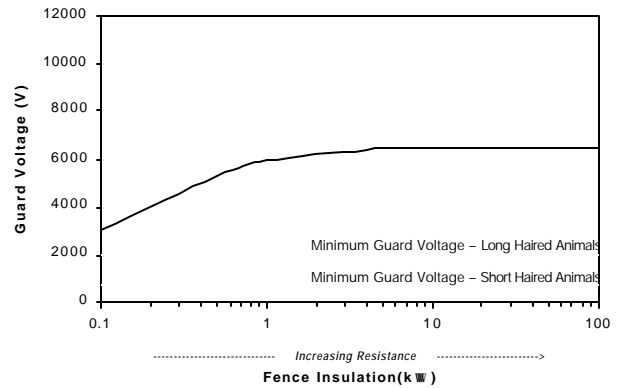

Figure 7. Guard Voltage for 3.3 mile (5.4 km) Fence.
**Shock Delivery:** Figures 7 and 8 show guard voltage outputs of the Baygard 2000 for 3.3 and 10 mile (5.4 and 16 km) lengths of single wire fence over a range of resistances. Table 6 provides the guard voltages at the "weeded" and "clean" fence conditions. Guard voltage values for other fence conditions are given in Appendix II. The higher the guard voltage the higher the shock delivered to the animal.
As can be seen from **Figures 7 and 8**, low resistance did not appreciably affect shock delivery since the voltage output was above 2,000 V for all fence conditions. The Baygard 2000 can be expected to deliver shock over a wide range of fence conditions.